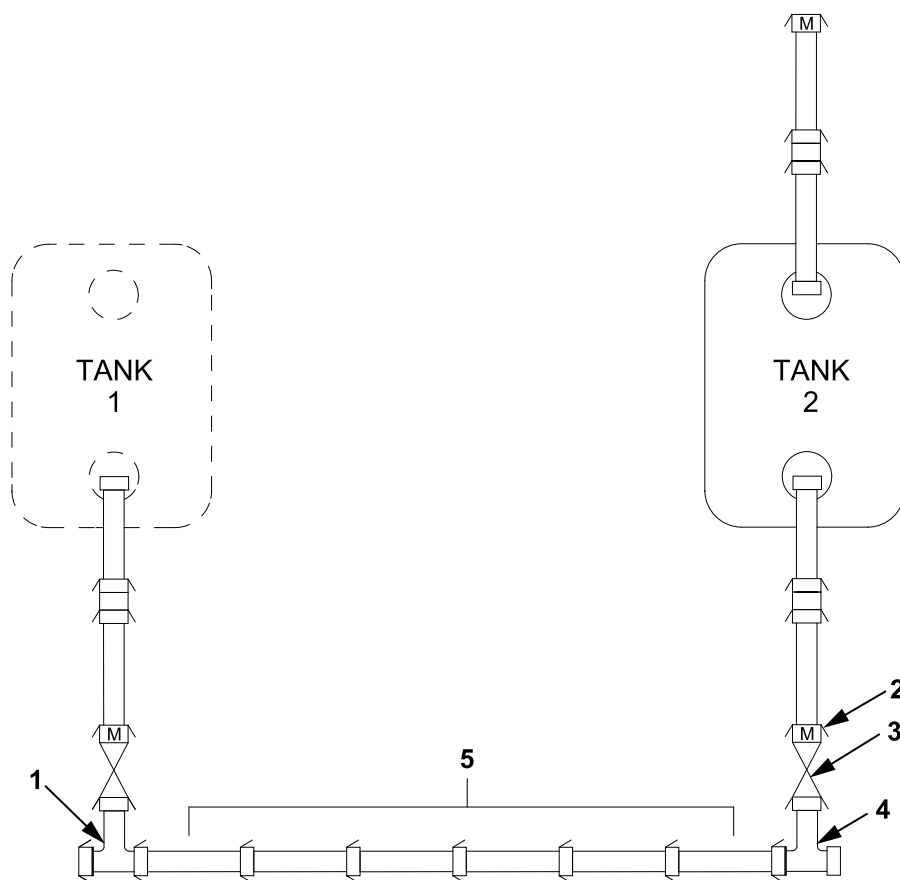

Figure 3. Fuel Tank Receipt Components Between Tanks.
15. Connect six sections of the 4 in. X 10 ft discharge hose (Figure 3, Item 5) to the female X male X male tee assembly (Figure 3, Item 1) on the male end towards the second fuel tank.
16. Remove a female X male X male tee assembly from pallet. Connect female X male X male tee assembly (Figure 3, Item 4) to discharge hose (Figure 3, Item 5) from fuel tank number 1.
17. Remove a 4 in. X 4 in. gate valve from pallet. Connect gate valve (Figure 3, Item 3) on the male port of tee assembly (Figure 3, Item 4) towards second fuel tank.
18. Connect gate valve (Figure 3, Item 3) to tank volume meter (Figure 3, Item 2).